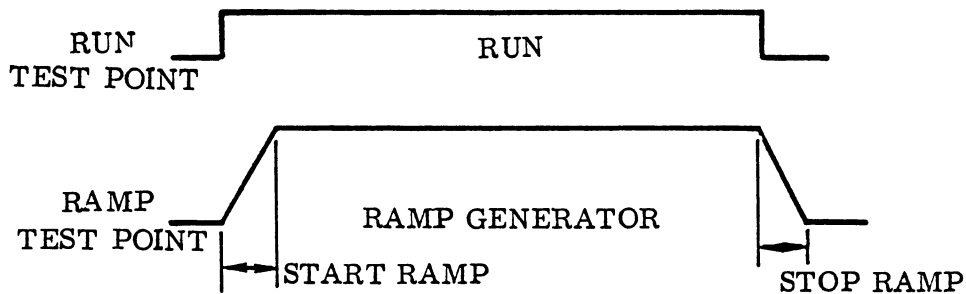

Figure 5-10. Ramp Adjustment Traces
- c. Adjust ramp potentiometer R242 to obtain ramp time of 3 ms at 125 ips. (See Figure 5-10.)